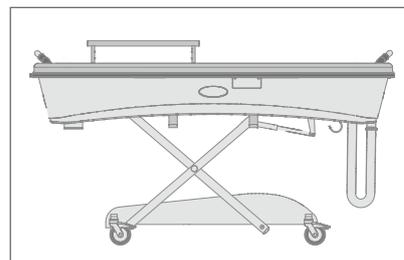

Figure 16. Siderail in use
1. Press the release buttons on the siderail legs and lift the siderail out of its sockets (see Figure 16 and 17).